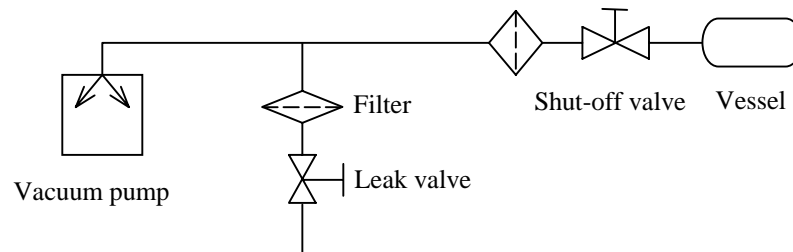

Fig. 3.1 Example of piping Used When Evacuating a Vessel
- 4) When evacuating a vessel, ensure that a shut-off valve is placed between the pump inlet pipe and the vessel (see Fig. 3.1).